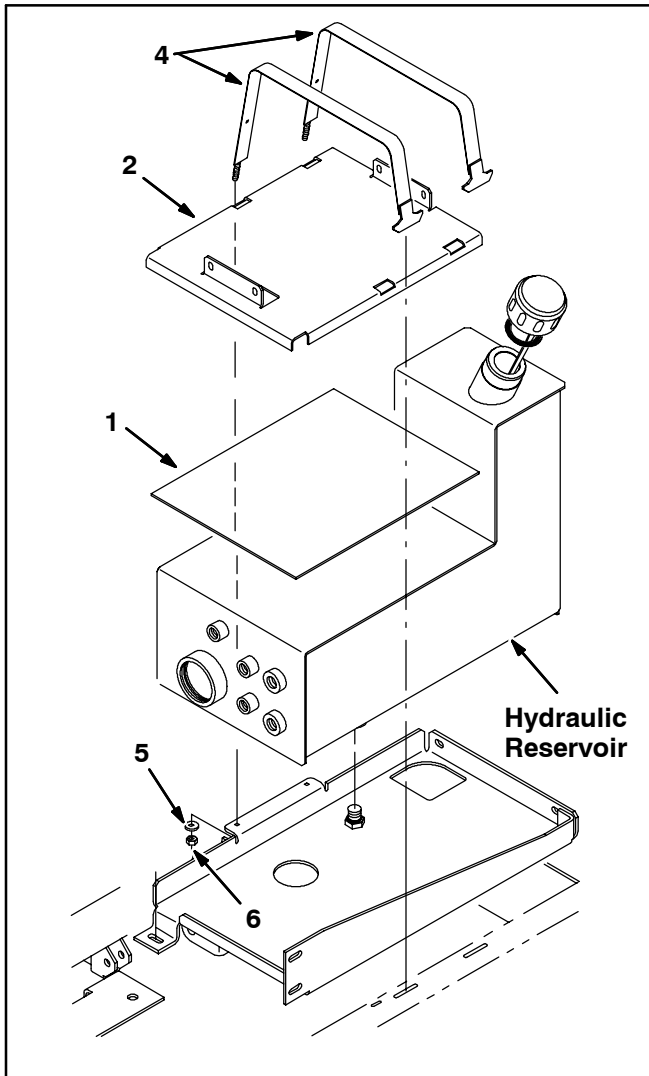

FIG. 1
6. Install the new insulation (1), base (2) and tank shield (3) under the new straps (4). Secure the straps with two flat washers (5) and two hex nuts (6). (Refer to FIG. 1, 2, 5, and 6)